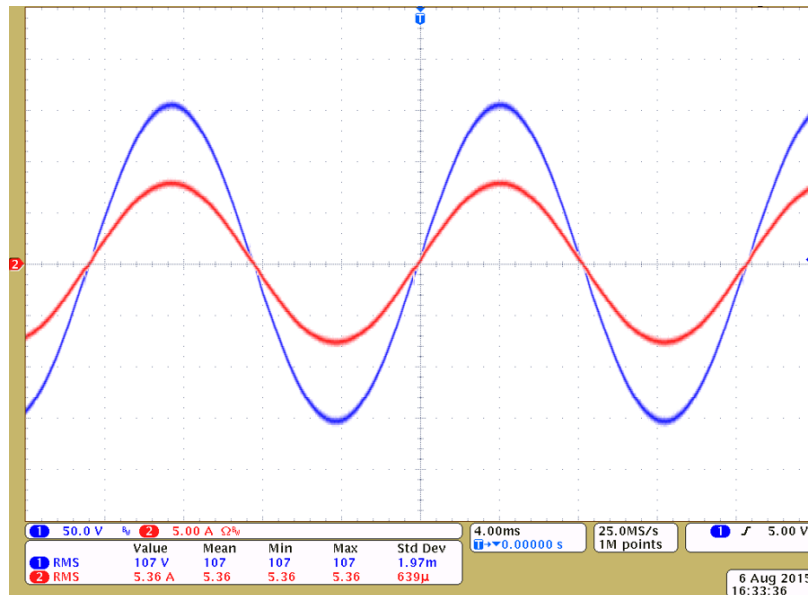

Figure 34. Output Voltage Regulated With Linear Load in Build 3
10. Observe a regulated voltage at the output, which will be similar to as shown in Figure 34.
Note in Figure 34 the output is being regulated at full power for this design, and this is not be the exact power level one will reach following the previous steps. Figure 34 is shown as an illustration of full power operation which is at maximum power level.